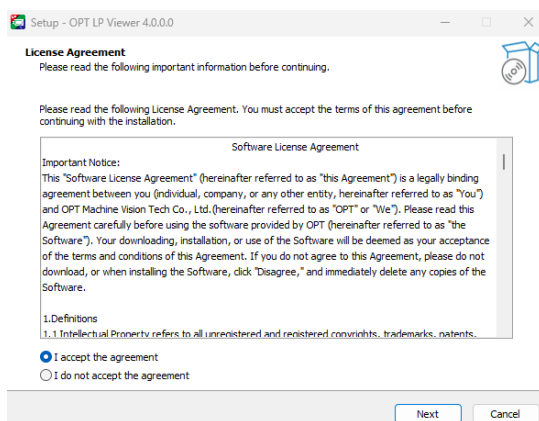

Figure 1.4.2 Installing Software
- 3 Begin installing the OPT LP Viewer_****_Setup application. Click the I agree to this agreement option, as shown in Figure 1.4.2.